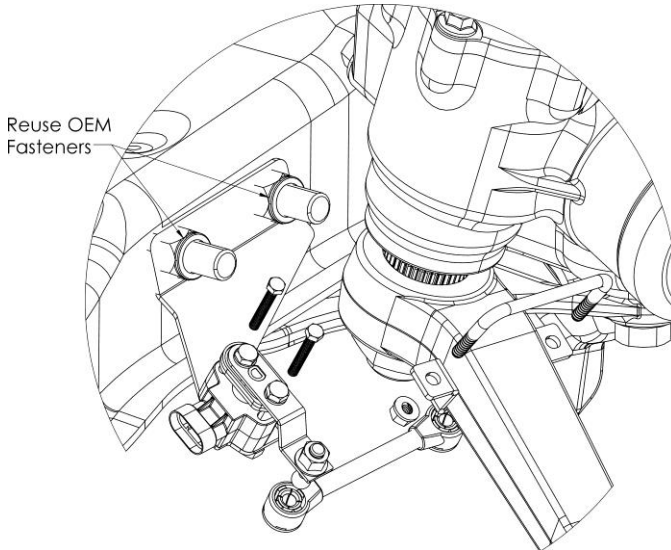

Figure 24: Steering Sensor Installation
3. Remove and retain the two nuts securing front track rod mount to cross member. See Figure 24.